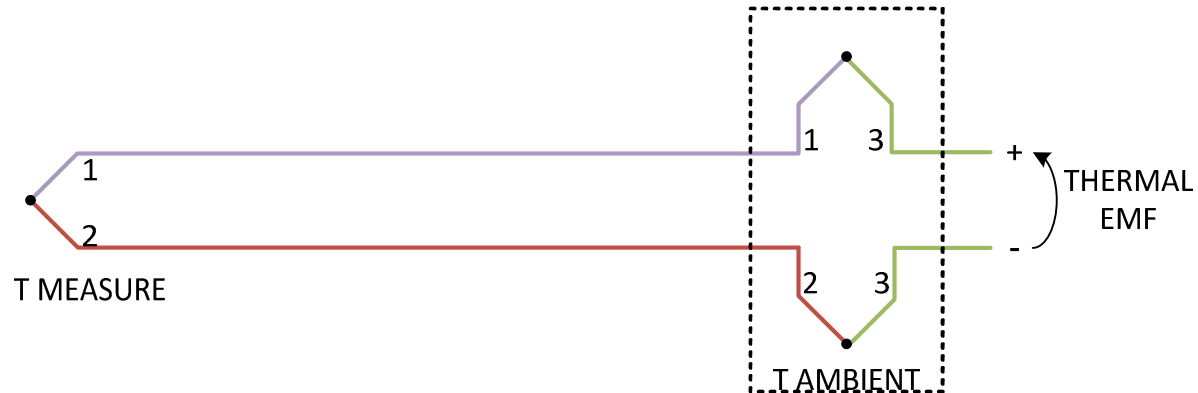

Figure 5: Thermocouple example
Thermocouple algebra involves adding up the effects of the thermocouple of interest plus all parasitic thermocouples in a system to determine the net thermal voltage. We assign a unique number to each different conductor type as shown in Figure 5. In that example the violet (1) and red (2) conductors are of an actual thermocouple of interest. The green (3) is taken to be the copper wires used to connect the thermocouple to the processing electronics. Note that a pair of parasitic thermocouples is formed at the connection of the copper wires to the thermocouple wires. That is always the case and it is important that those two thermocouples be at the same
$$V = T_A \cdot K_{23} + T_M \cdot K_{12} + T_A \cdot K_{31} \quad \text{Summing voltages around the loop (Figure 5)}$$